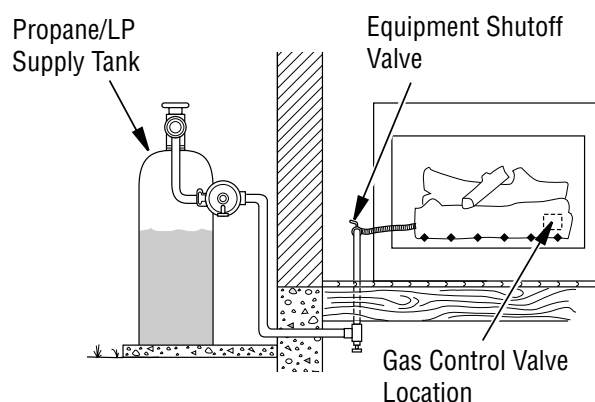

Figure 15 - Checking Gas Joints (Propane/LP Model Shown)
3. Check all joints from gas meter to equipment shutoff valve for natural gas or propane/LP supply to equipment shutoff valve for propane/LP (*see Figures 15 and 16*). Apply noncorrosive leak detection fluid to all joints. Bubbles forming show a leak.
4. Check all joints from equipment shutoff valve to gas control (*see Figures 15 and 16*). Apply noncorrosive leak detection fluid to all joints. Bubbles forming show a leak.